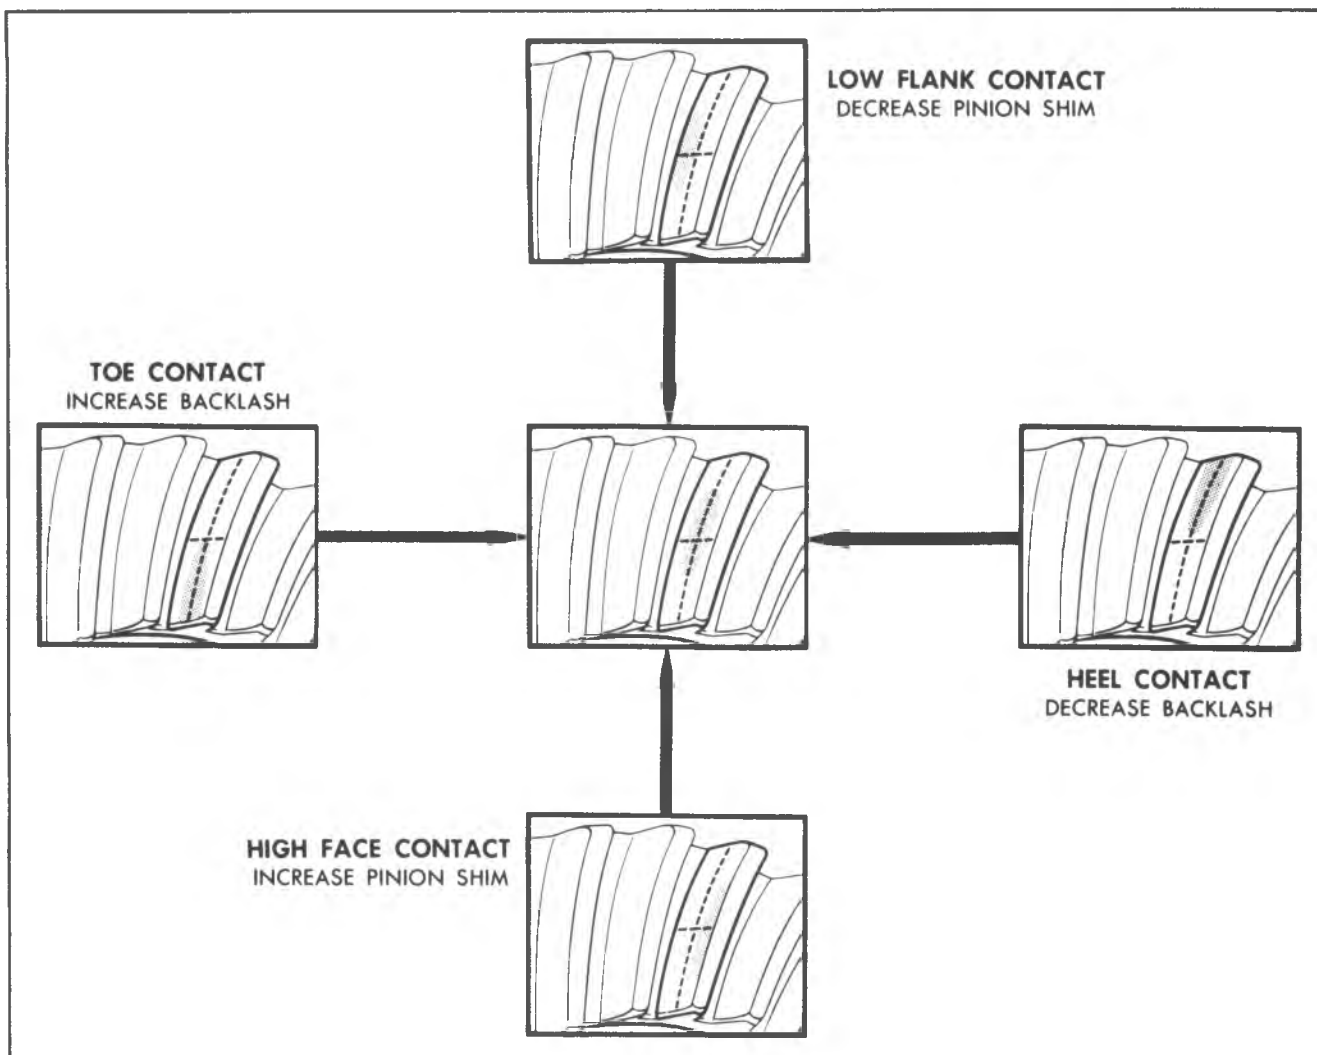

Fig. 26B—Gear Tooth Contact Pattern Check
5. Observe pattern on ring gear teeth and compare with Figure 26B.